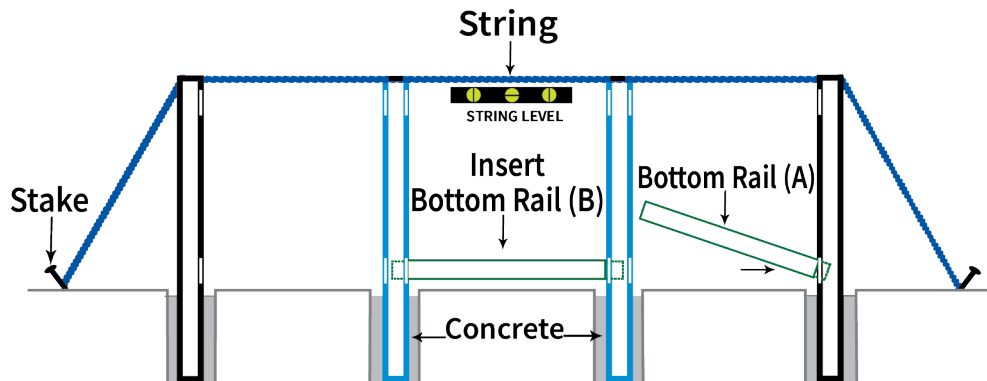

Fig.A2
Slide the bottom rail (with the steel insert)(A), slots side up into the bottom hole of the post. Starting at end or corner place the next post into the next hole. Now slide the next Bottom Rail into the bottom hole of the next post (Fig. A2). Repeat these steps until all rails are inserted (B)..